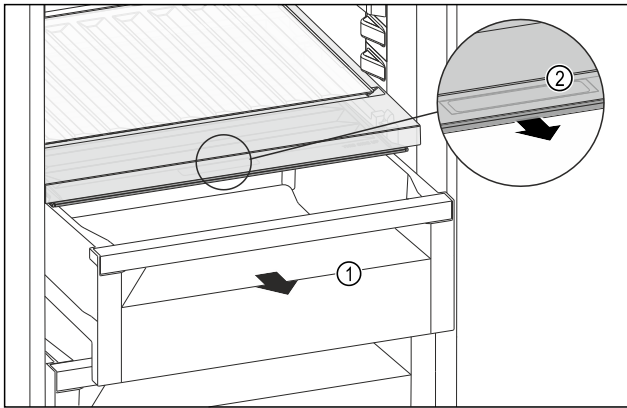

Fig. 180
- ▶ Pull out the drawer Fig. 180 (1).
- ▶ Grasp the recessed grip Fig. 180 (2) on the compartment lid and pull the compartment lid forwards at the same time.